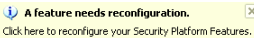

Figure 1
2. The Ultra TPM utility appears in the system tray after it is installed. To create a TPM key and save it to USB flash drive(s) right-click on the Ultra TPM icon and select **Initialize**. A screen in Figure 1 will appear. Select a USB flash drive and click the **Enable Backup to BIOS** check box, or select at least two USB flash drives. Click **OK** and then enter the user password created with Infineon Security Platform SettingsTool. Click **OK** to store the key on your USB flash drive or in the BIOS.